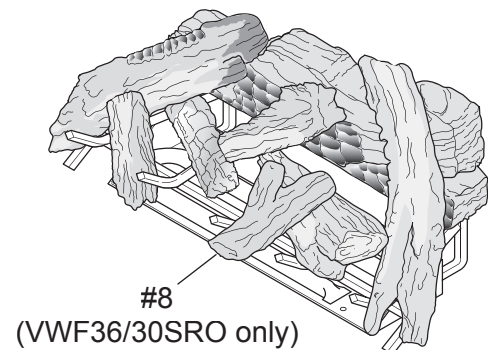

Figure 23 - VWF36/30SRO (Split River Oak) Log Placement
9. **VWF36/30SRO only:** Rest Front Right Log #8 on top right log #4 and front of burner pan. *See Figure 23.*